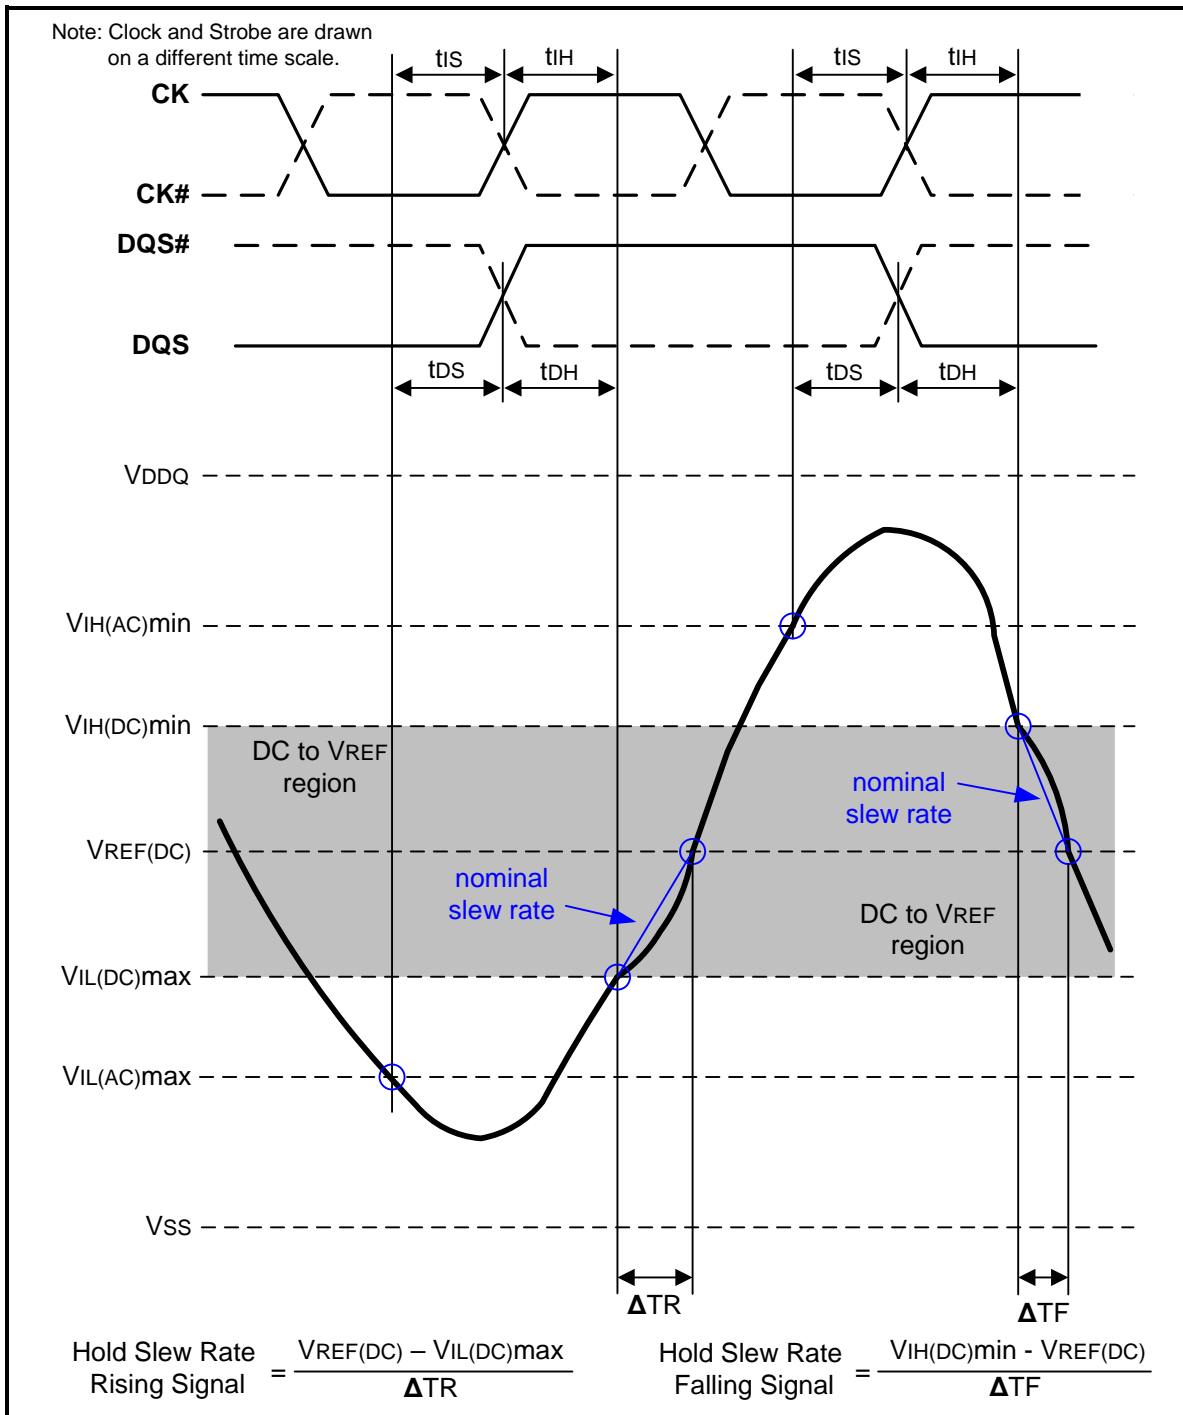
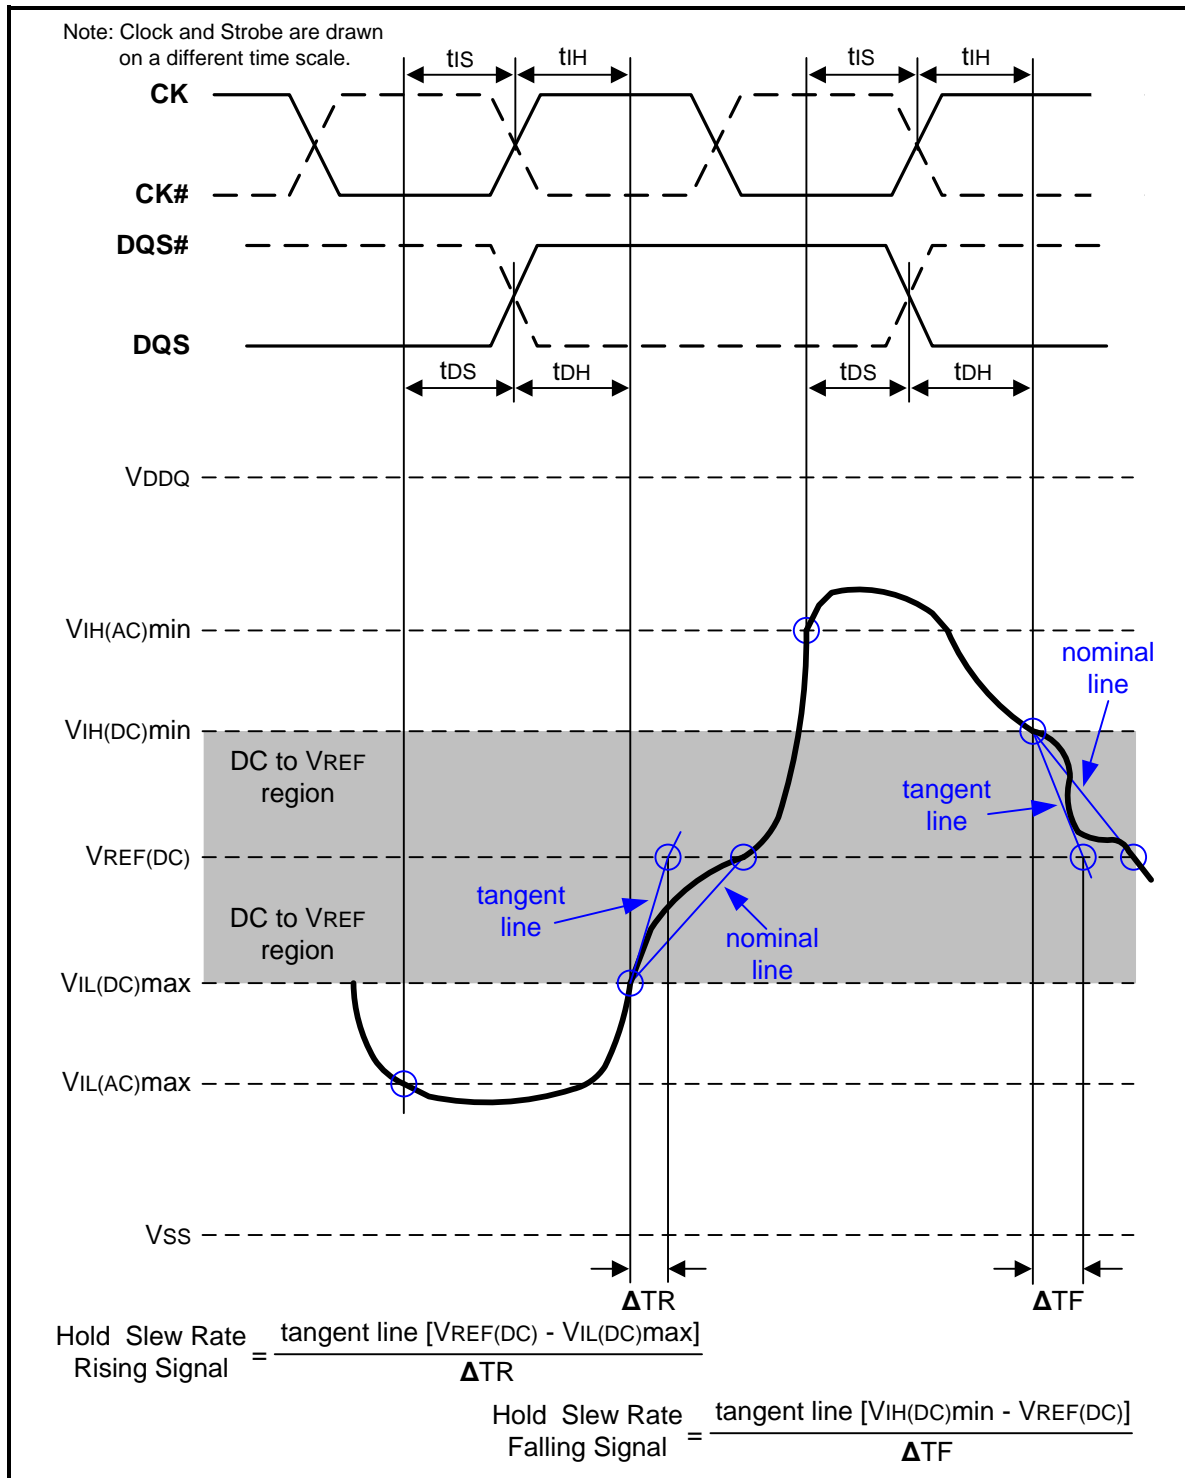

Figure 108 – Illustration of nominal slew rate for hold time t_{DH} (for DQ with respect to strobe) and t_{IH} (for ADD/CMD with respect to clock)
Figure 110 – Illustration of tangent line for hold time tDH (for DQ with respect to strobe) and tIH (for ADD/CMD with respect to clock)
Hold (t_{IH}) nominal slew rate for a rising signal is defined as the slew rate between the last crossing of $V_{IL(DC)max}$ and the first crossing of $V_{REF(DC)}$. Hold (t_{IH}) nominal slew rate for a falling signal is defined as the slew rate between the last crossing of $V_{IH(DC)min}$ and the first crossing of $V_{REF(DC)}$. If the actual signal is always later than the nominal slew rate line between shaded ' DC to $V_{REF(DC)}$ region', use nominal slew rate for derating value (see Figure 108). If the actual signal is earlier than the nominal slew rate line anywhere between shaded ' DC to $V_{REF(DC)}$ region', the slew rate of a tangent line to the actual signal from the DC level to $V_{REF(DC)}$ level is used for derating value (see Figure 110).
Hold (tDH) nominal slew rate for a rising signal is defined as the slew rate between the last crossing of VIL(DC)max and the first crossing of VREF(DC). Hold (tDH) nominal slew rate for a falling signal is defined as the slew rate between the last crossing of VIH(DC)min and the first crossing of VREF(DC) (see Figure 108). If the actual signal is always later than the nominal slew rate line between shaded 'DC level to VREF(DC) region', use nominal slew rate for derating value. If the actual signal is earlier than the nominal slew rate line anywhere between shaded 'DC to VREF(DC) region', the slew rate of a tangent line to the actual signal from the DC level to VREF(DC) level is used for derating value (see Figure 110).